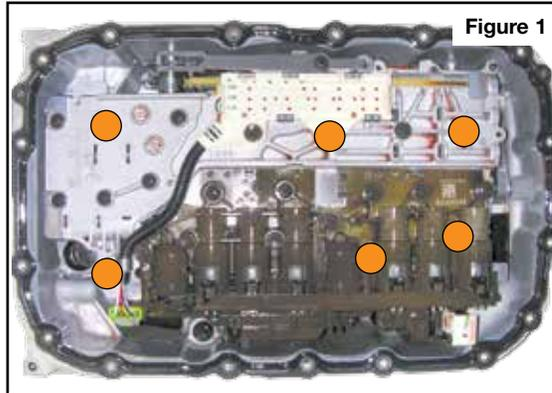

Figure 1
- a. Remove six control solenoid valve assembly-to-case Torx Plus® bolts (**Figure 1 & 2**). A special socket (GM Tool Part No. DT-48285) is available (**Figure 3**), or a standard 11/32" six-point drive socket will work with care.